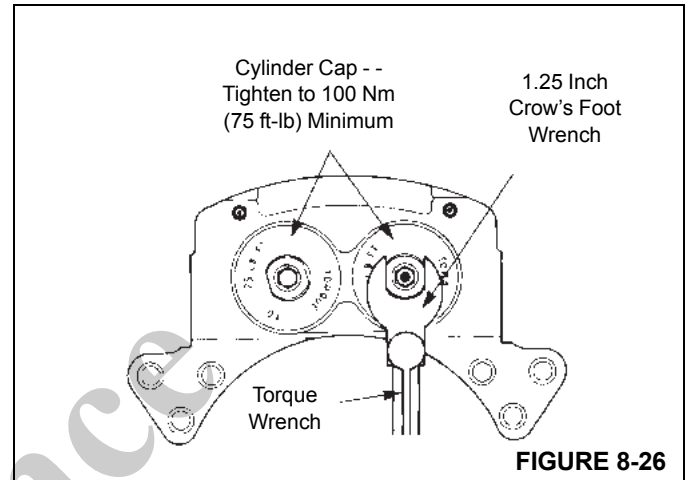

FIGURE 8-26
6. Install the cylinder caps in the caliper housing. Tighten the cylinder caps to 75 lb-ft (102 Nm) minimum as shown in Figure 8-26.